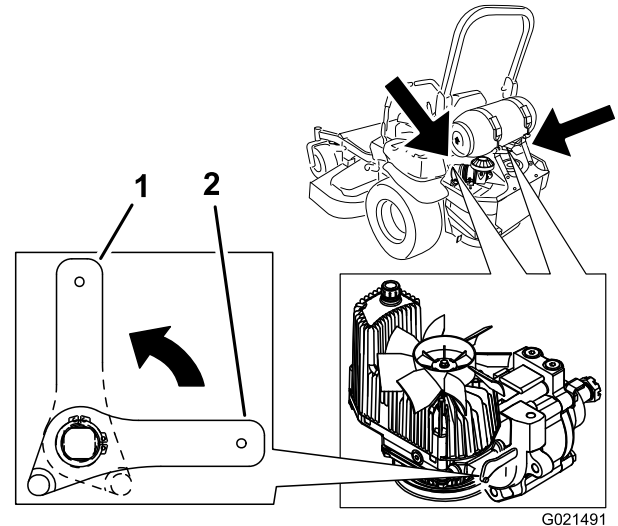

Figure 36
3. Rotate the release valve levers vertically to push the machine (Figure 36).
5. Rotate the release valve levers horizontally to run the machine (Figure 36).